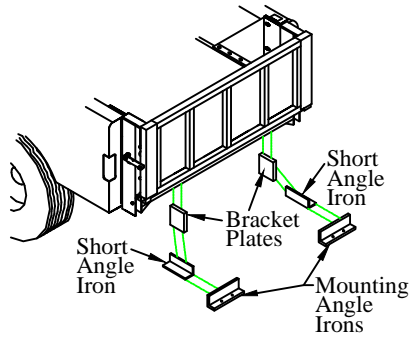

Figure 16: Lower bracket support.
2. **Bolt** the bracket plates to the truck frame (Figure 16).